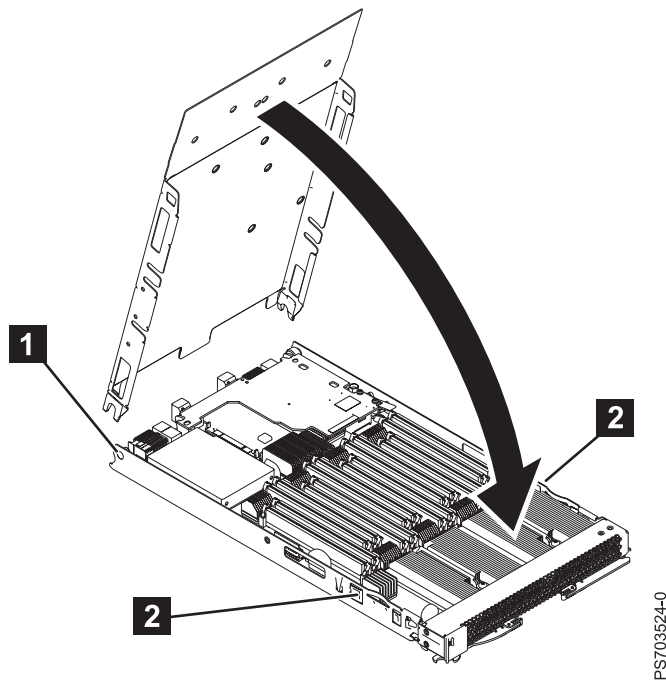

Figure 20. Installing the cover for a PS703 blade server
2. Lower the cover so that the slots at the rear slide down onto the pins (**1** in Figure 20 on page 235) at the rear of the blade server. Before you close the cover, verify that all components are installed and seated correctly and that you have not left loose tools or parts inside the blade server.